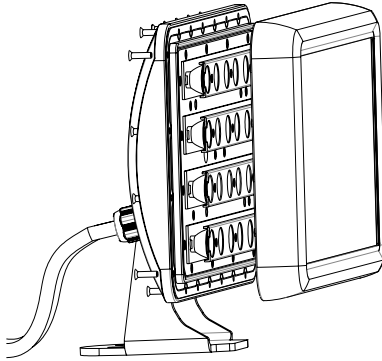

Figure 38: Reinstalling the front cover
4. Set the fixture upright (see figure 38) and check that the front cover seal is correctly seated in its slot all the way round the edge of the fixture housing. If the seal is not correctly seated, use one hand to press the seal into its slot in one place, then use the other hand to press the seal into the slot, moving round the slot until the seal is correctly seated all the way round the housing.